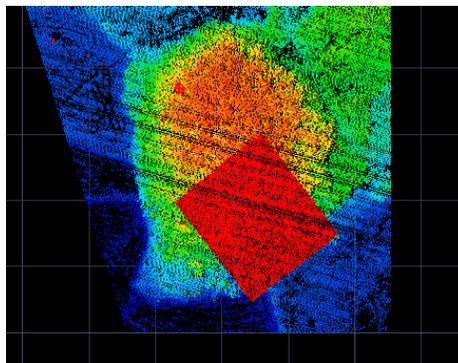

Figure 3-108 Square Selection
- (1) Click the menu <Tools> → <Square Selection>.
- (2) In the view, click the left mouse button to draw a line, and then click the left mouse button again to draw a rectangular box, the points within the rectangle will be in the selected state and change the color (Figure 3-108).
- (3) The selected state of the color of the cloud of points can be set up in the <File> → <System Settings> → <Selected Points Color>.